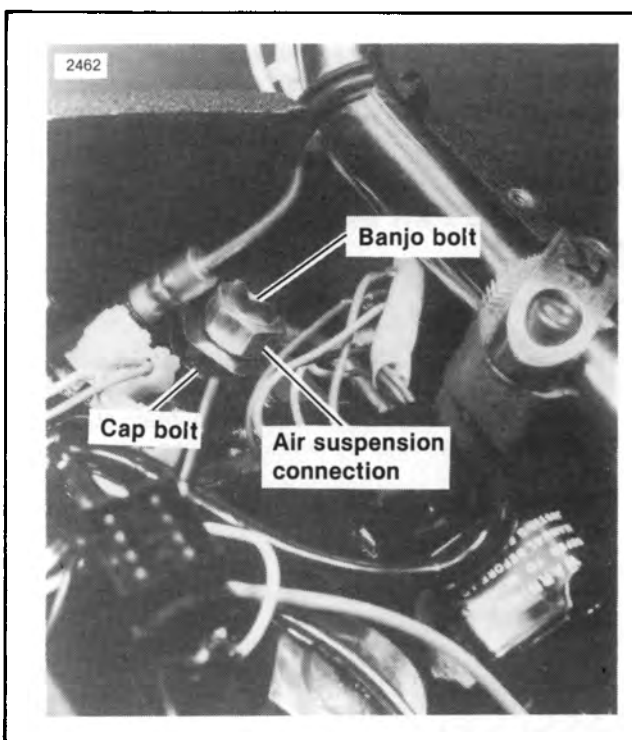

Figure 2-63. Fork Cap Location — FLT
1. See Figure 2-63. Remove the instrument panel and handlebar on FLT models. On 1986 and later FLHT Models, remove the front light bar and the outer fairing. Raise front wheel so it clears floor and support with blocks under frame.
4. See Figure 2-63. Remove the fork cap bolt and seal from each fork.